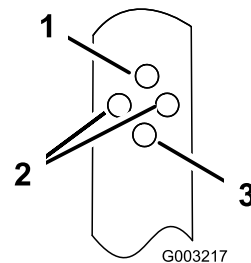

Figure 15
2. Insert the bolt through the hole in each of the handle brackets that sets the handle to the desired position (Figure 15).